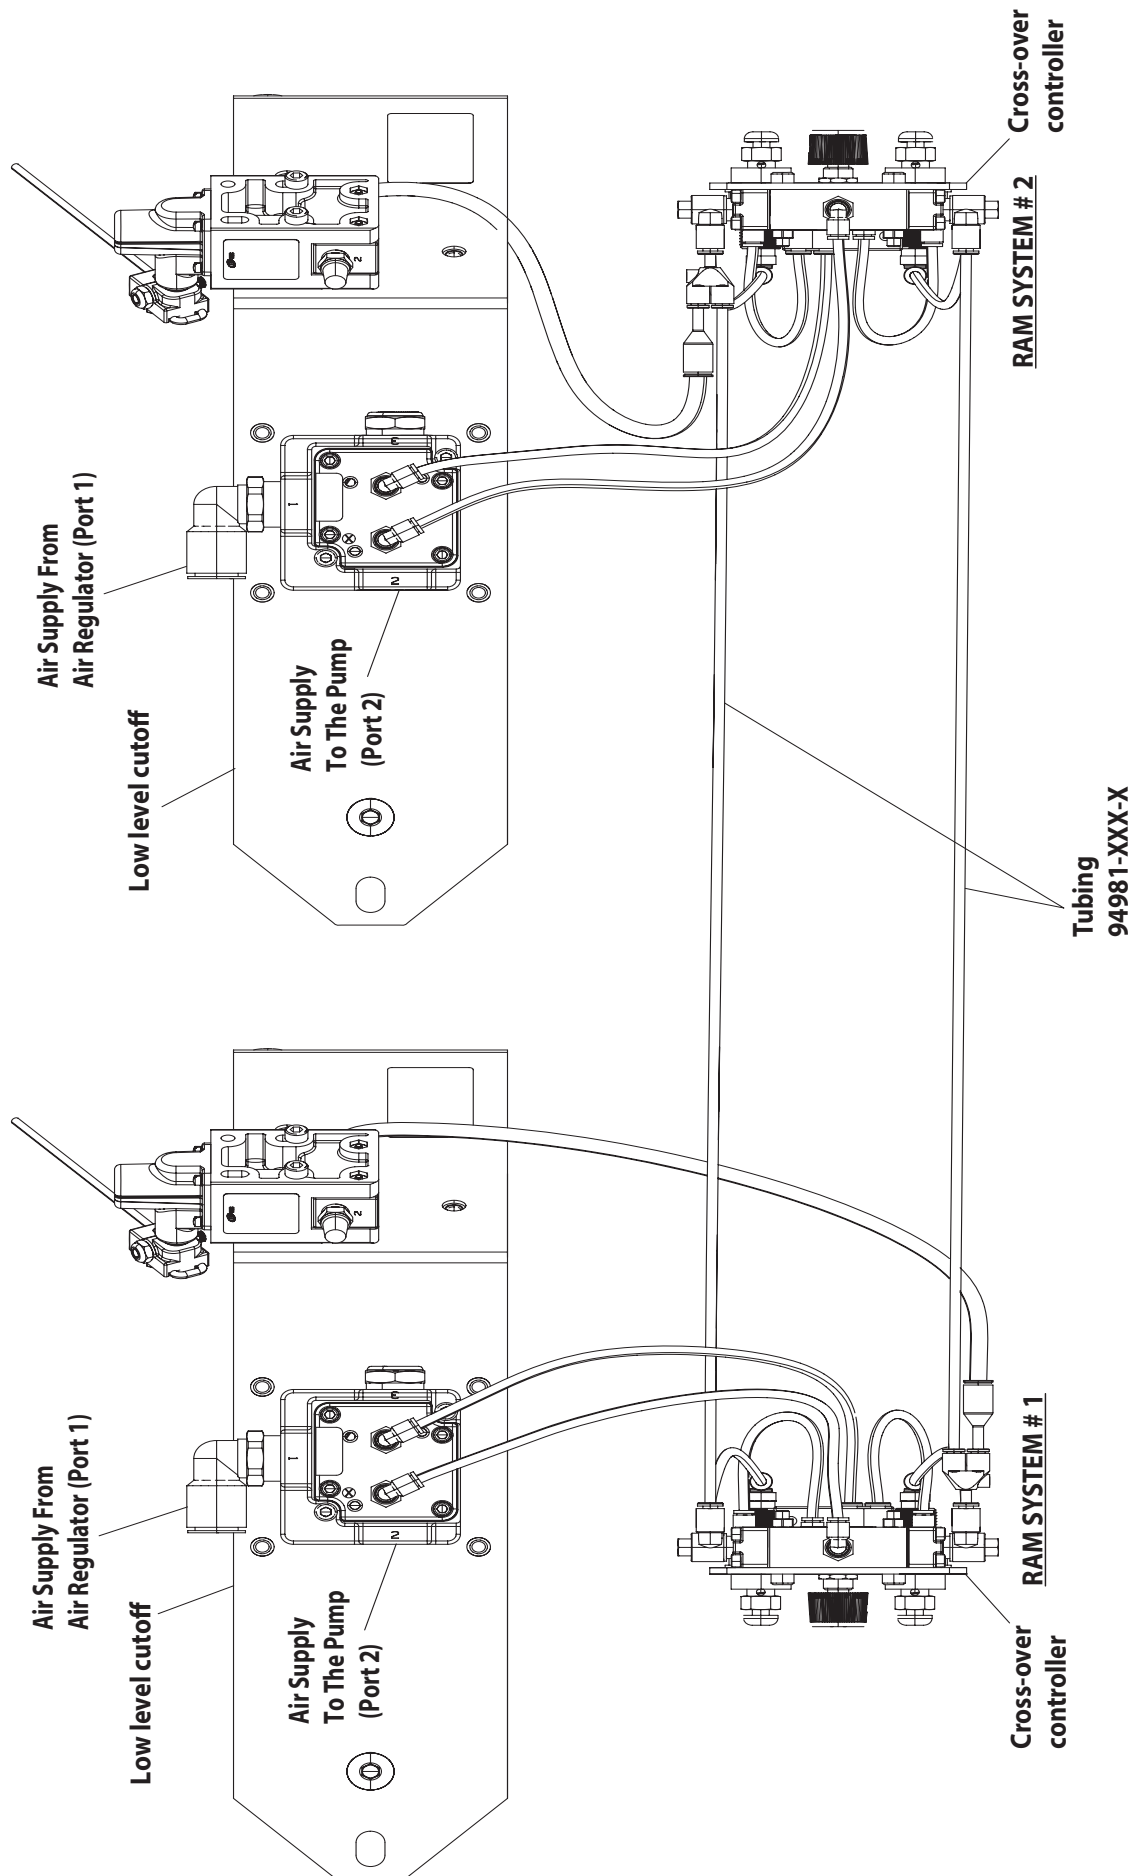

Figure 3
1. Install tubing 94981-XXX-X (Provided with system) from one RAM system to the other RAM system. (See illustration on First page and Figure 3 on Page 3).